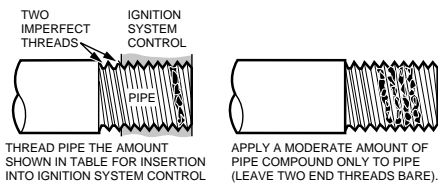

Fig. 4. Use moderate amount of pipe compound.
4. Apply a moderate amount of good quality pipe compound (do not use Teflon tape) only to the pipe, leaving two end threads bare as shown in Fig. 4. On LP installations, use a compound resistant to LP gas.
1. Remove pilot adjustment cover screw. See Fig. 4.